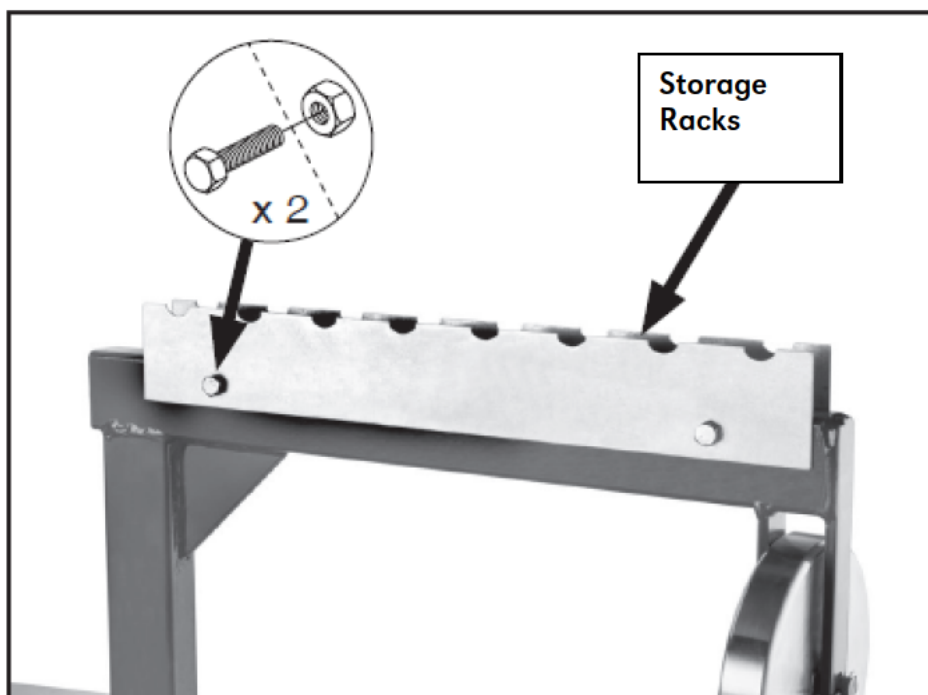

Figure 9. Storage racks installed
6. Attach the lower wheel storage racks to the frame top with (2) 1/4"-20 x 1 1/4" hex bolts and (2) 1/4"-20 hex nuts (see Figure 9).